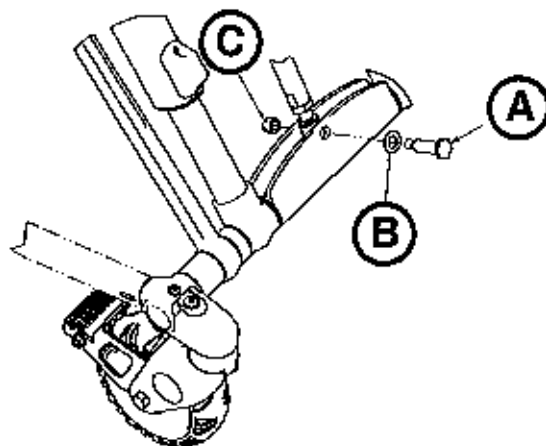

Figure 58
3. Using a 3/4" and 9/16" combination wrench, remove the rod attachment pin (A), washer (B), and Nylock hex nut (C) that secure the hydraulic cylinder to the base (Figure 58).